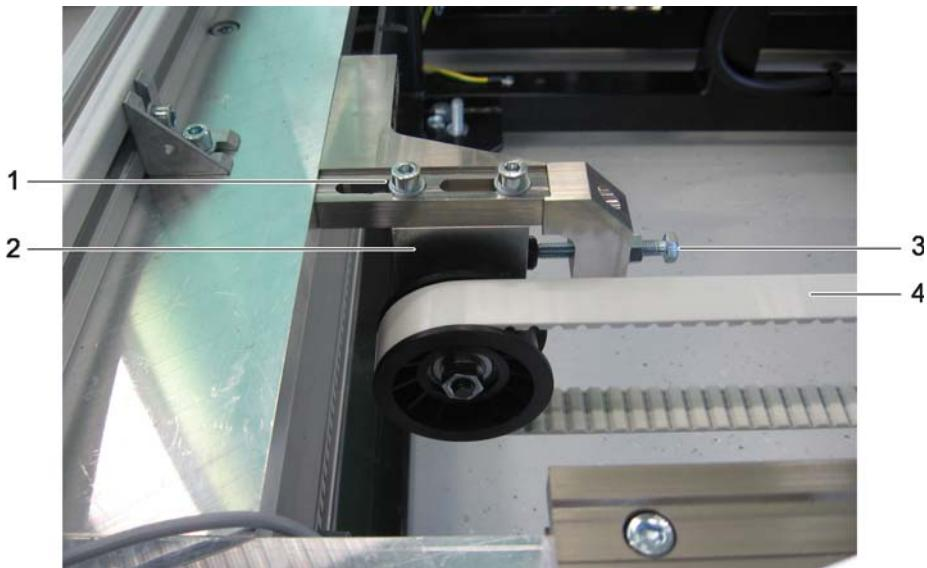

Fig. 8-7 Drive of the transfer transport in the transfer module
- 2** Loosen the screws (1 in Fig. 8-7, Fig. 254) of the toothed pulley holder (2).
- 3** Turn the straining screw (3) counter-clockwise until the drive belt (4) is loose.